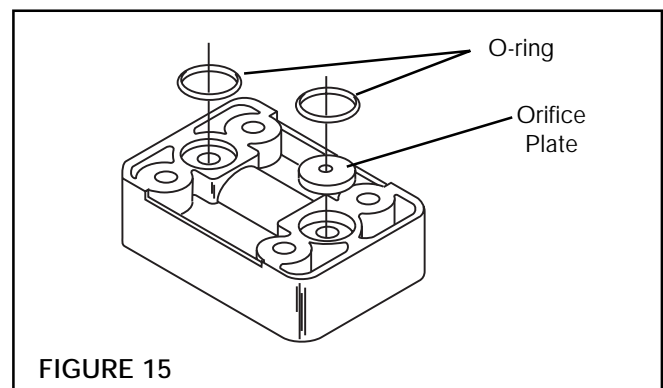

FIGURE 15
2. Remove the O-ring and Orifice Plate (See Figure 15).